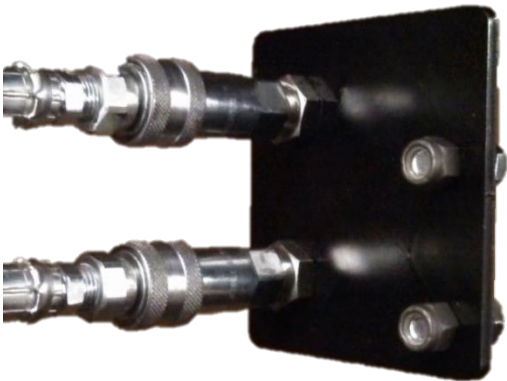

Figure 1
- 1) Align the 2-port bracket with the vehicle using the two provided bolts. Install on the passenger's side of the vehicle frame, even with the top of the factory rear plate, with the bolts extending toward the rear of the vehicle (see Figure 1).